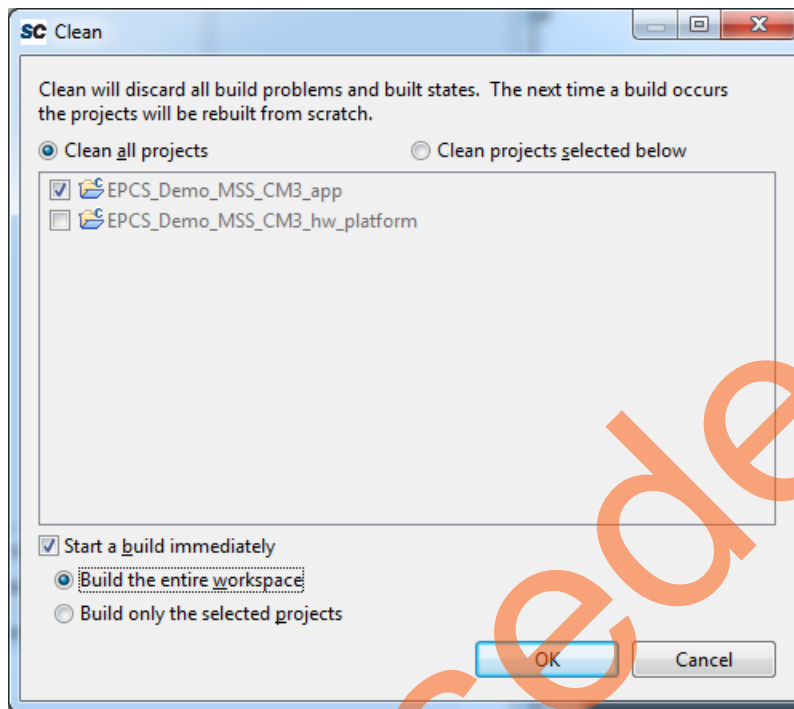

Figure 58 • Clean and Build SoftConsole Project
11. The **Clean** window is displayed. Click **OK** to build the SoftConsole projects, as shown in Figure 58.